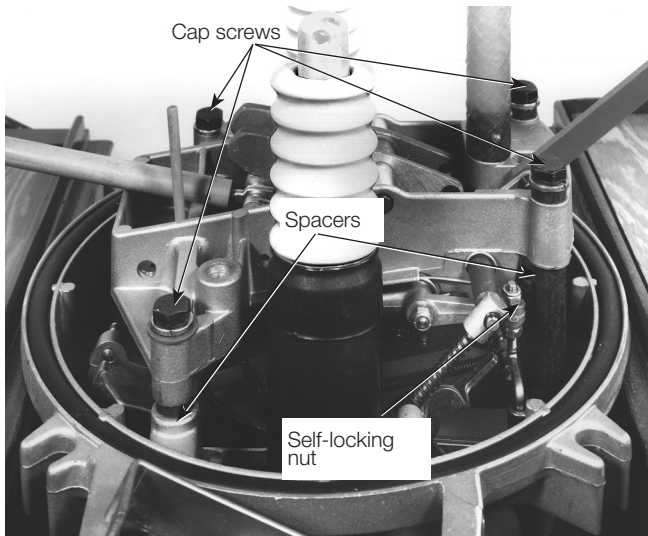

Figure 12. Head operating mechanism
Note: Figure 12 shows head assembly as it will appear after vacuum interrupting structure, series-trip solenoid, hydraulic mechanism, and insulating stringers have been removed. Bushing removal is required for further head tear down.
2. Remove self-locking nut and four hex cap screws shown in Figure 12. Note locations of washers and spacers.
6. Slide adjustable lockout lever into position through operating mechanism lever. Install spacers and capscrews to secure operating mechanism to head mechanism, see Figure 12.